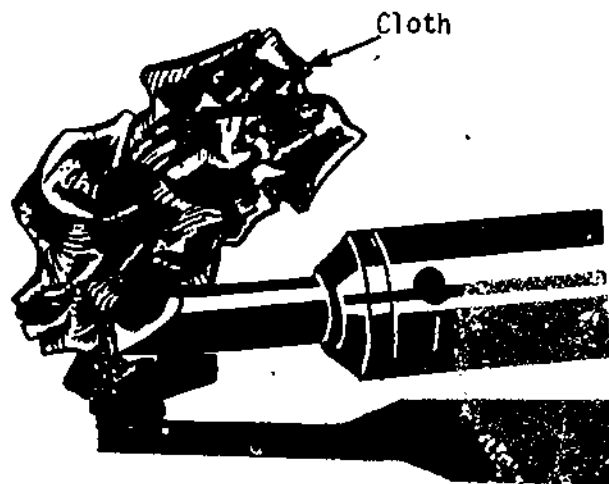

Figure 27.
c. Wipe off excess solder with a damp sponge or a cloth. See figure 27.